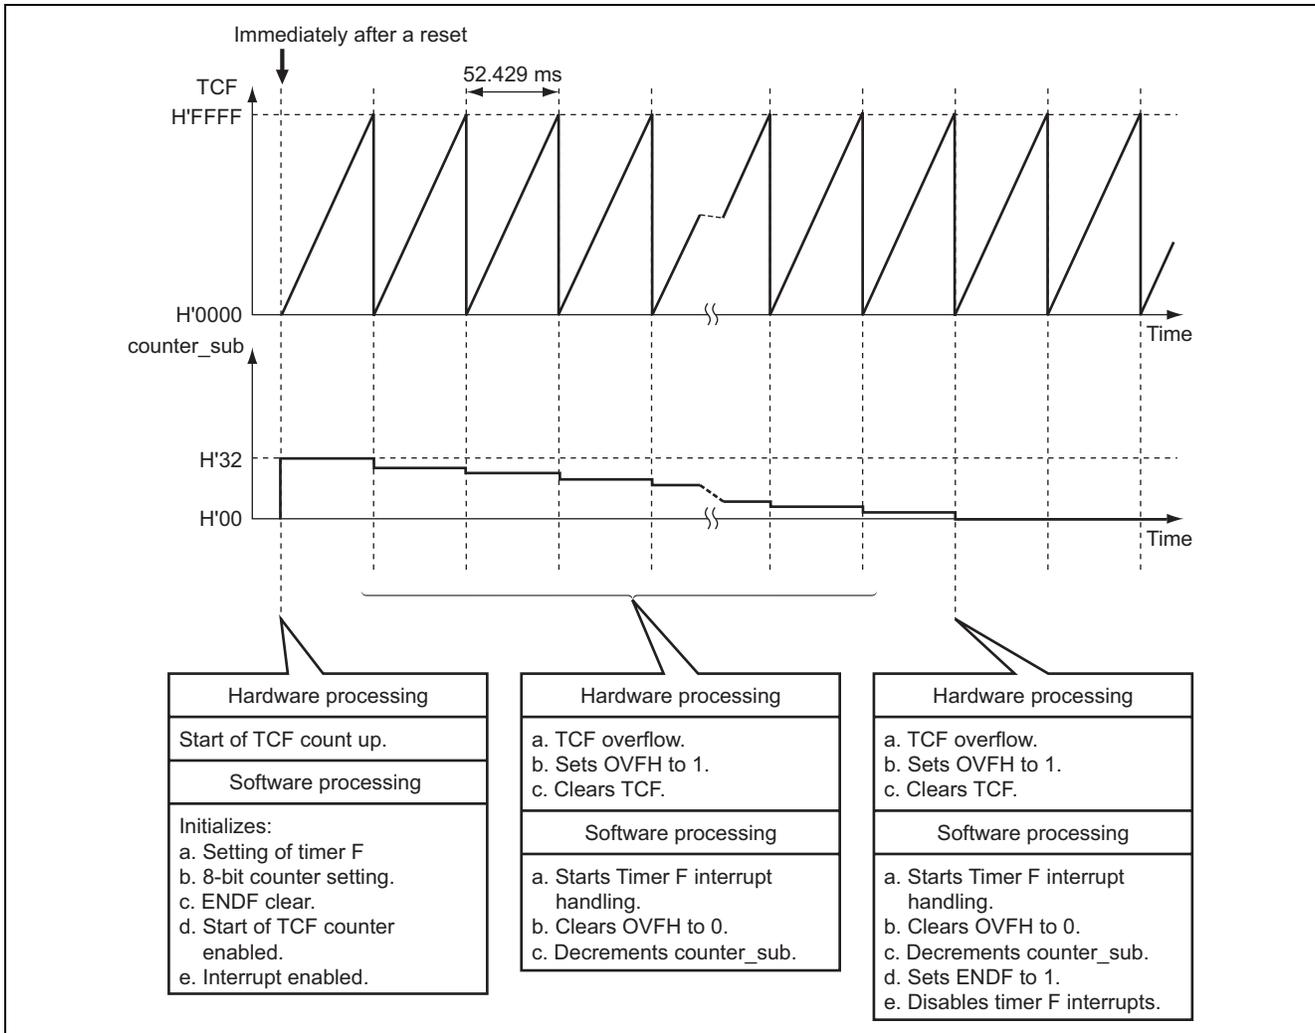

Figure 2 Operation Principle of Interrupt Counting by 16-Bit Timer Counter Function of Timer F
1. Figure 2 illustrates the principle of operation of this sample task. As shown in figure 2, interrupts are counted by the 16-bit timer counter function of Timer F by means of hardware processing and software processing.